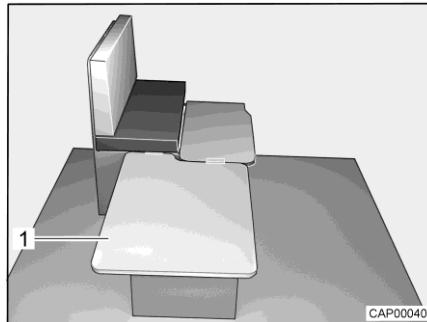

Fig. 44 During conversion
- Hook removable board (Fig. 44,1) in on the side of the bench and place it on the table.